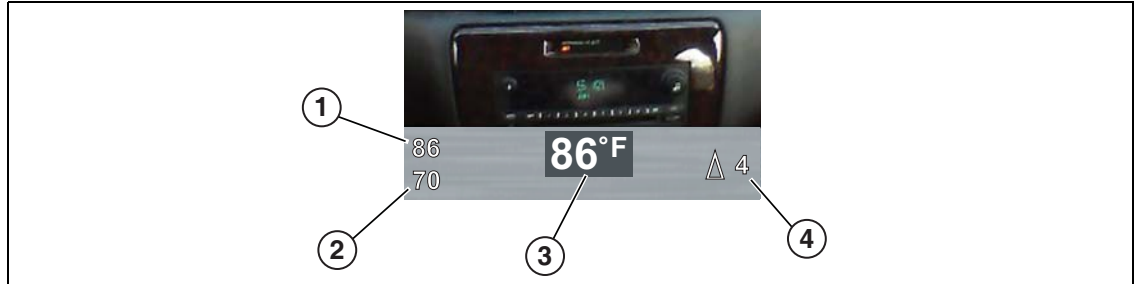

Figure 4-6
3. Point the laser at the desired object(s), and read the measurement on the screen (Figure 4-6).